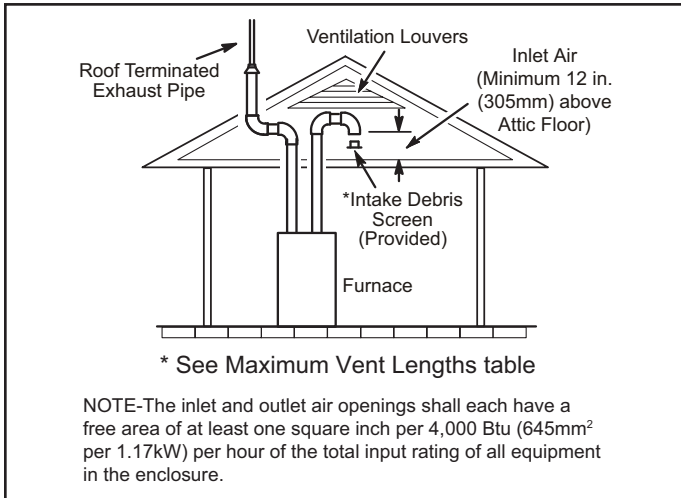
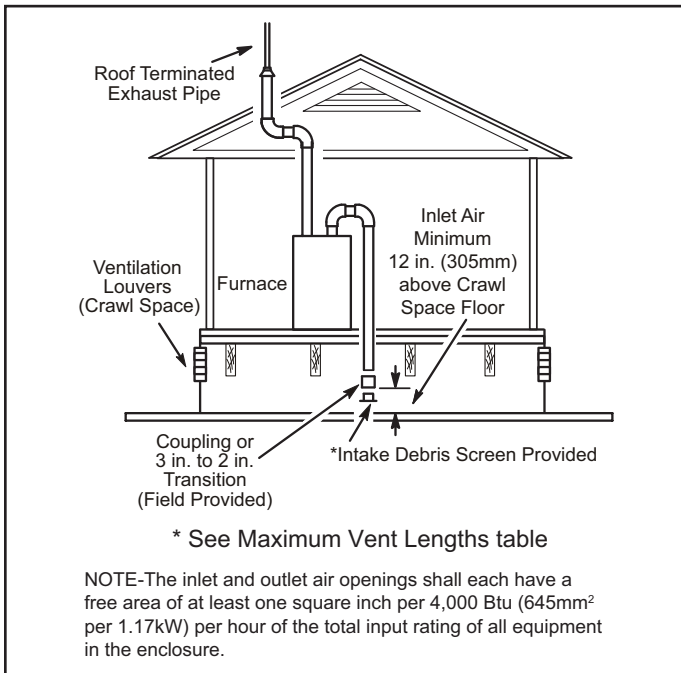

Figure 19. Equipment in Confined Space (Inlet Air from Ventilating Attic and Outlet Air to Outside)
Figure 20. Equipment in Confined Space (Inlet Air from Ventilating Crawlspace and Outlet Air to Outside)
2. If intake air is drawn from a ventilated attic (Figure 19) or ventilated crawlspace (Figure 20) the exhaust vent length must not exceed those listed in Table 11C. If 3" diameter pipe is used, reduce to 2" diameter pipe at the termination point to accommodate the debris screen.